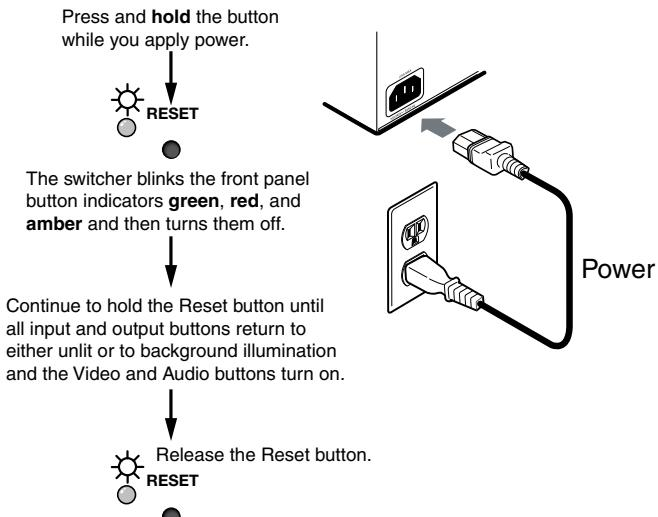

Figure 27. Hard Reset
2. Press and **hold** the **Reset** button on the rear panel **while** you apply AC power to the switcher (see figure 27).